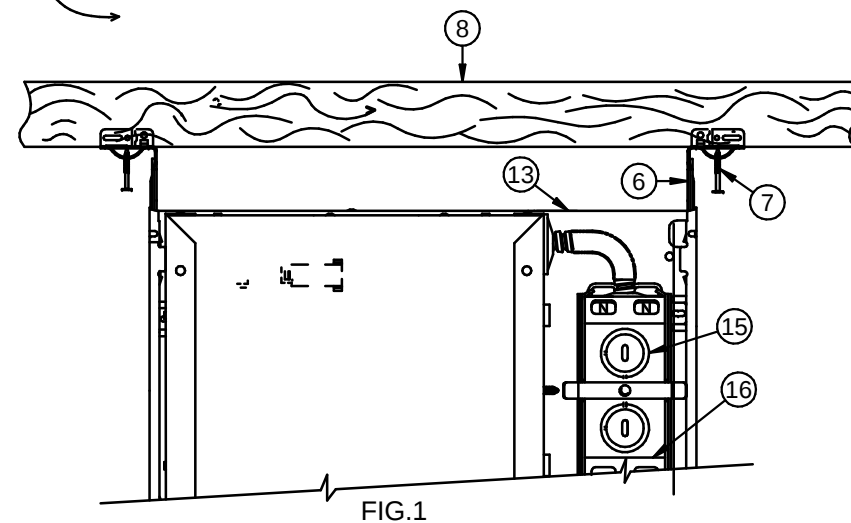

FIG. 1
- For Wooden Joists: Extend the Bar Hangers (6), use joist alignment tabs to locate fixture and position underneath the support joist (8). Drive the 4 Nails (7) into Joists (8) (Fig. 1 & 3). Drive additional nails through holes in Bar Hanger for alternate support if required. Bar Hangers may be bent to fix tight mounting conditions.